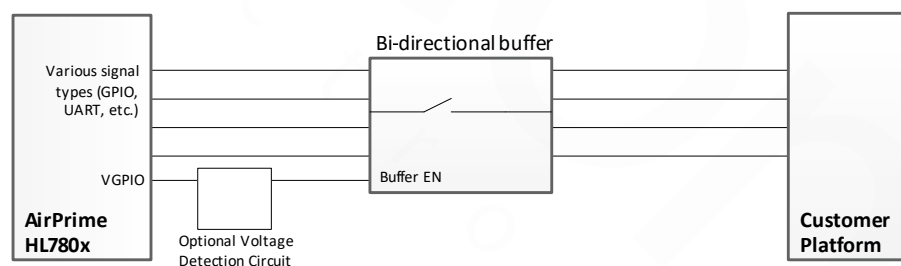
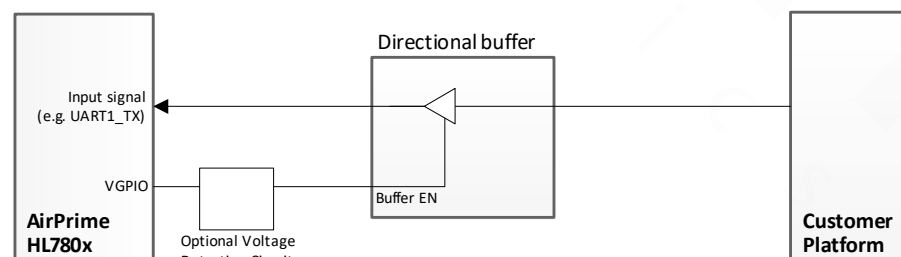

Figure 6-3: Example—Buffer – Bidirectional Signal
Figure 6-4: Example—Buffer – Directional Signal
- Bidirectional (Input/Output) signals—For module I/O signals (e.g. GPIOs), an analog switch that can tri-state both the output and the input can be used (e.g. Texas Instruments TMUX1511). As shown in Figure 6-3, I/O signals connected to the buffer will be tri-stated.
- Directional (Input) signals—For module inputs (e.g. UART1\_TX), a logic buffer with output tri-state mode can be used (e.g. Texas Instruments SN74LVC1G126). As shown in Figure 6-4, the signal is controlled and, when disabled, the output signal is tri-stated.
To ensure faster detection of VGPIO transitions, Sierra Wireless recommends adding an optional voltage detection circuit (as shown in Figure 6-3 and Figure 6-4) to monitor and detect the transition low, and then control (enable/disable) the associated buffer circuit.